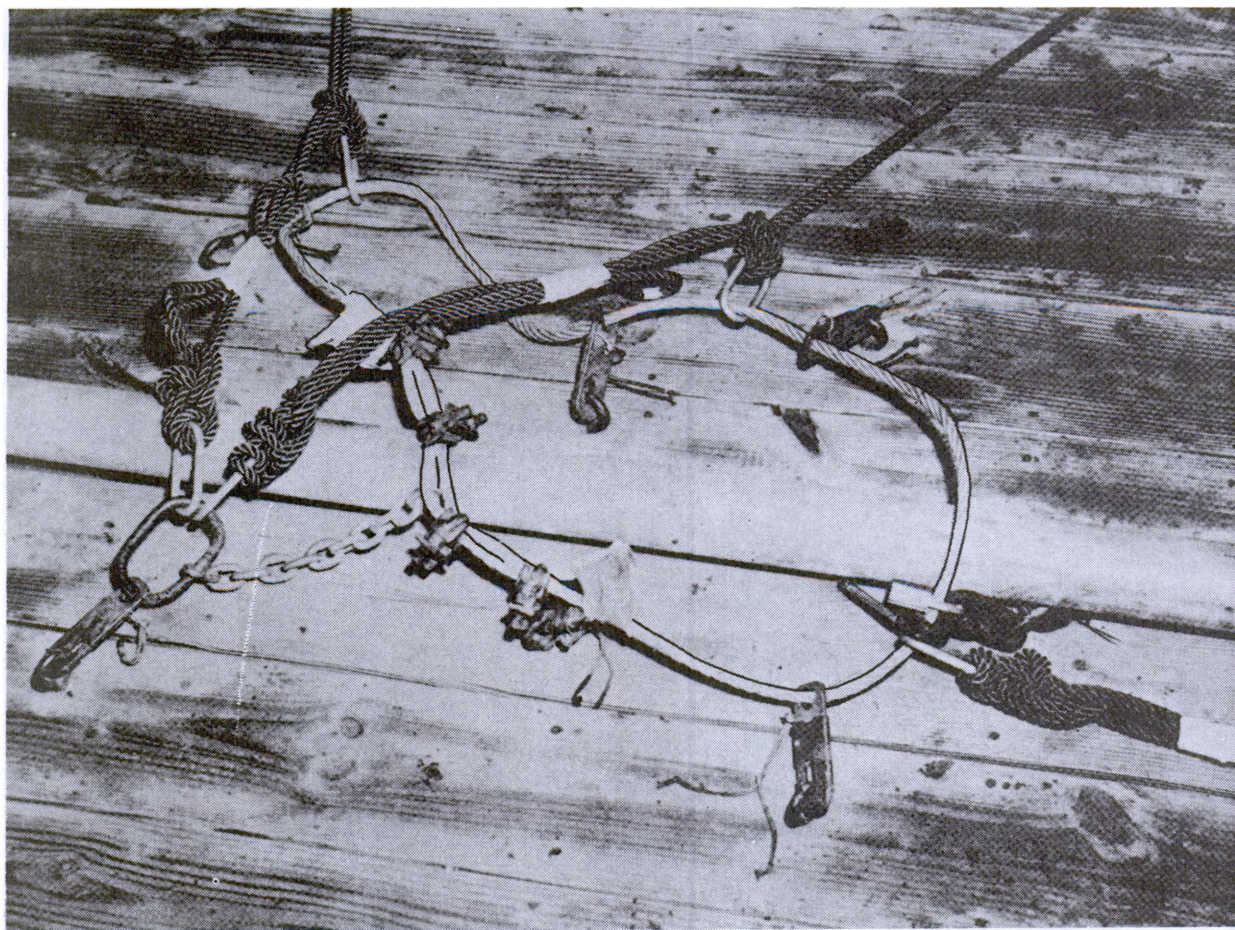

Figure 2. Donut ring on the tower.
d. Connect the rope to the donut ring and then to the floating safety ring. Insure that you have enough slack between you and the donut ring to reach the edge of the door (fig. 2).